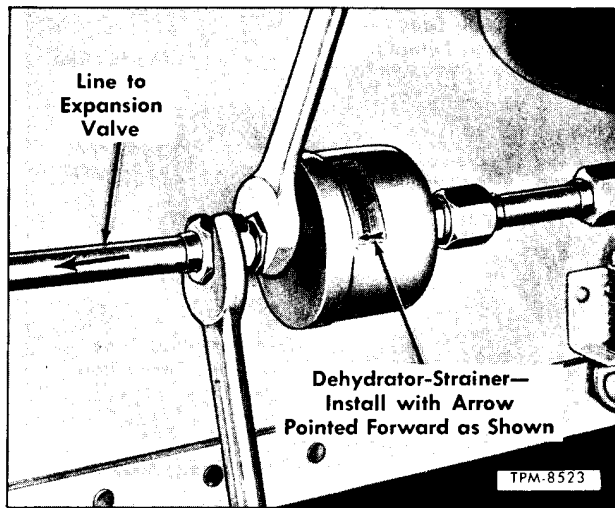

Figure 85—Replacing Dehydrator-Strainer
2. Referring to figure 85, remove old unit in manner shown. CAUTION: Do not twist refrigerant lines, use two wrenches as shown.